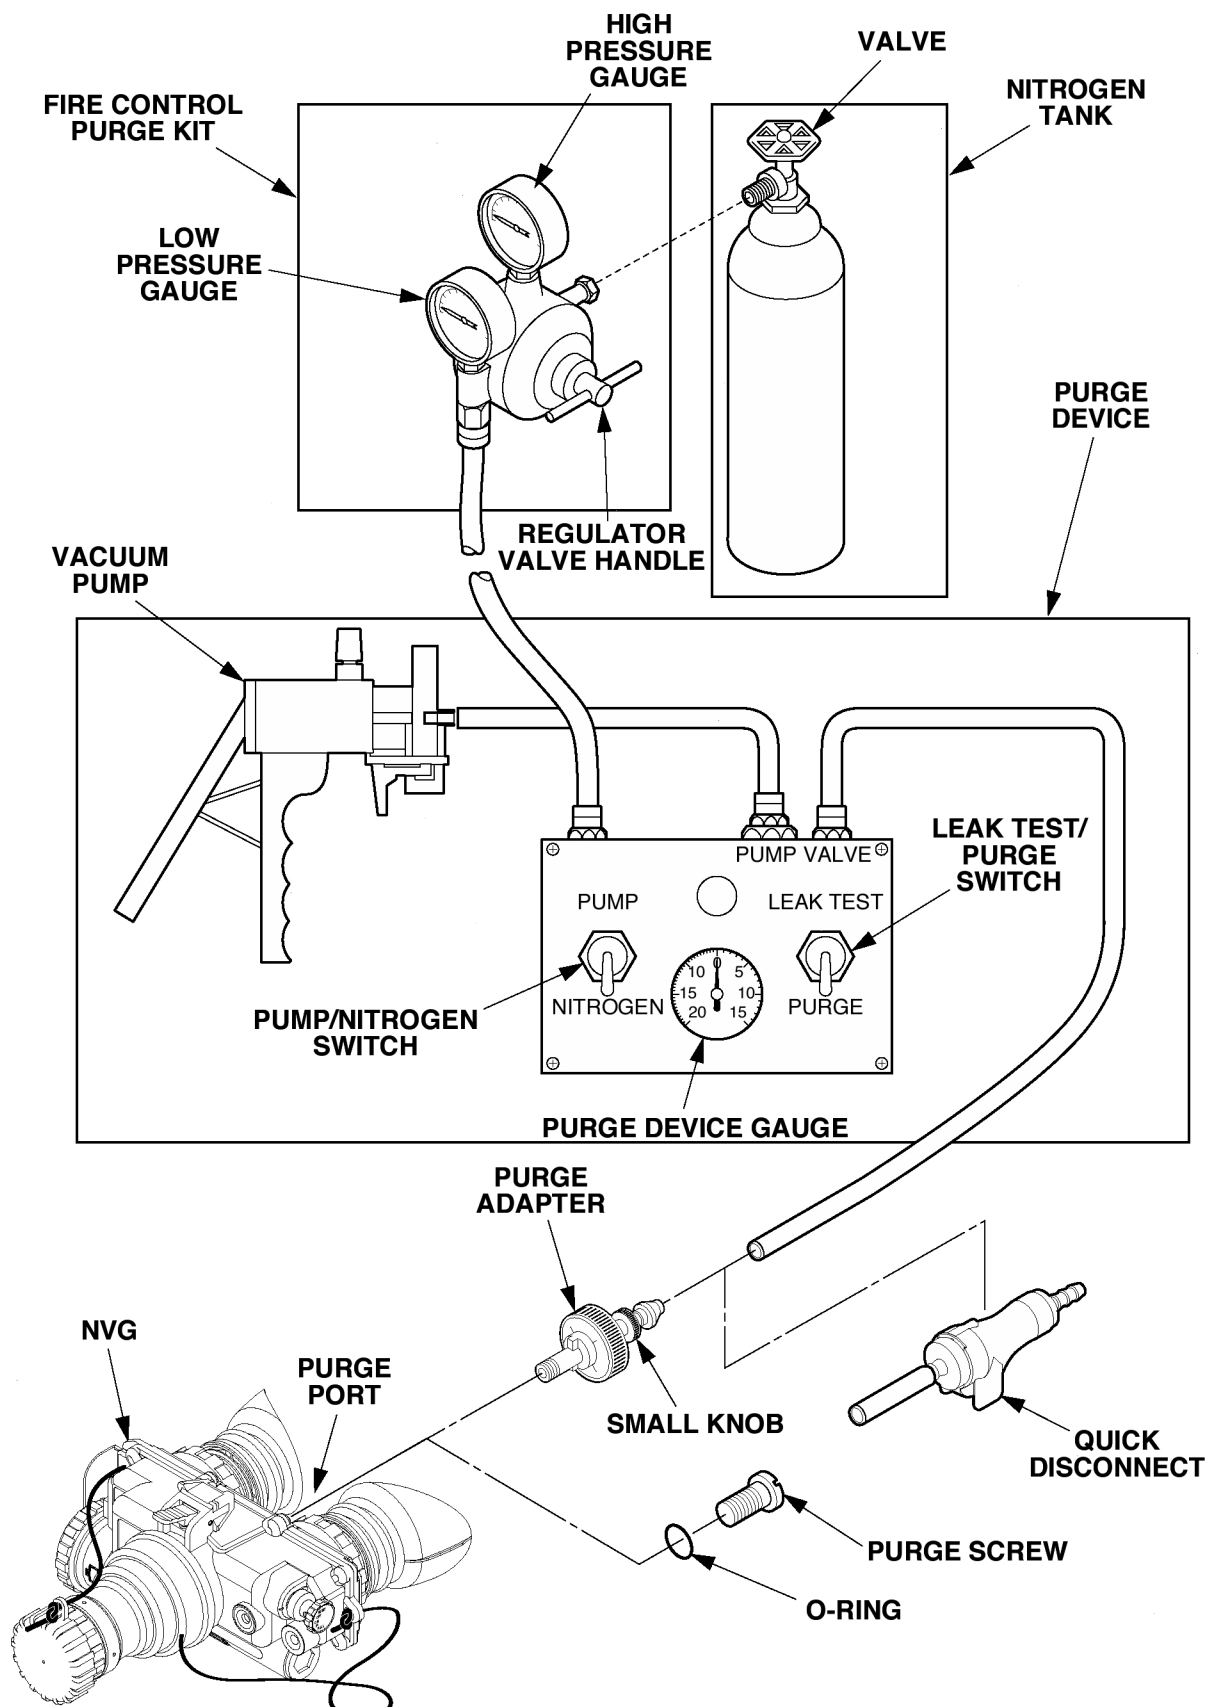

Figure 3-13. Nitrogen Purging Equipment Setup.
- (1) Connect fire control purging kit, using a wrench , or equivalent, to nitrogen tank and purge device as shown in Figure 3-13 and in accordance with TM 750-116.
- (2) Ensure that valve is closed on the nitrogen tank.
- (3) Set regular valve handle for zero psi by rotating control until there is no spring pressure on control.
- (4) Remove purge screw and O-ring from the purge port of the goggles.